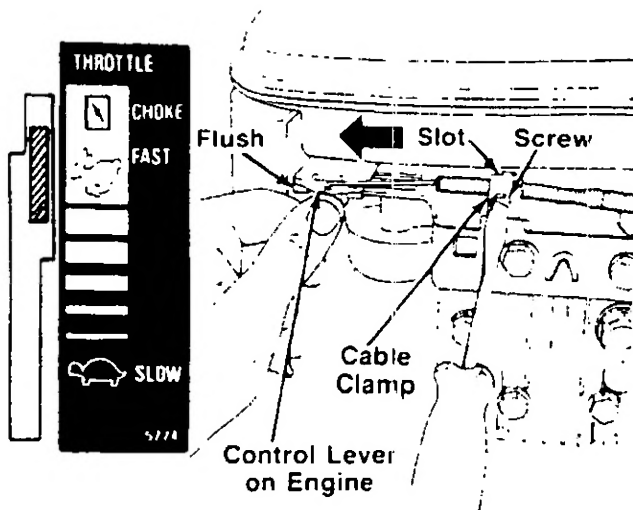

FIGURE 6C.—Models 466R, 469R, 476R and 479R
1. Push the throttle control lever on the handle all the way forward to CHOKE, then back it off two "clicks" (approximately 5/16"). See figure 6C.
2. The throttle control cable is attached to the upper handle. Route the throttle control cable under the lower handle and inside the handle mounting bracket. Hook the "Z" end of the throttle control cable into the hole in the control lever on the engine. See figure 6C.
3. Using a 5/16" wrench or nutdriver, remove the screw on the cable clamp shown in figure 6C. Slip the control cable under the clamp. Replace the screw (cable should be above the screw), but do not tighten (cable must still move freely beneath the clamp). Make certain the tab on the cable clamp is seated into the slot on the engine.
4. Push the control lever on the engine as far toward the **outside** of the engine as it will go. The edge of the control lever should be flush with the bracket on the engine. See figure 6C. Hold the control lever in this position as you tighten the screw on the cable clamp to secure the throttle cable.